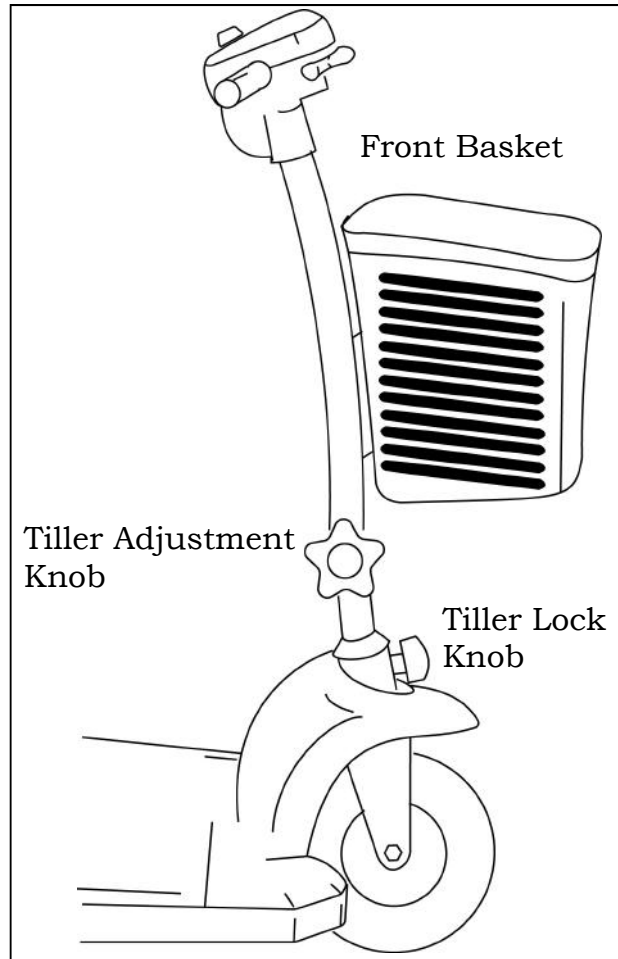

Figure 23. Tiller Raised
4. Loosen the tiller adjustment knob and raise the tiller. See figure 23.
6. Place the basket onto the tiller bracket and push down to lock it in place. See figure 23.
10. Turn the tiller lock knob counterclockwise 90 degrees to the unlocked position. See figure 23 on page 28.